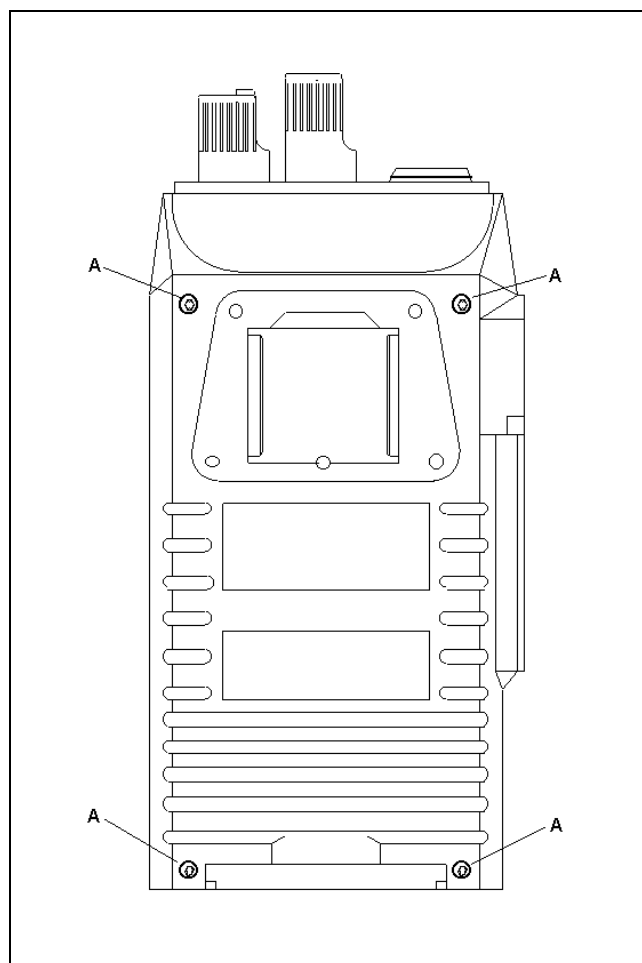

Figure 6 - Front And Rear Cover Separation
In the event internal service is required, disassemble the radio in accordance with the following outlined steps. See Figures 6 - 10.
Lay the radio face down and loosen the four (4) Torx screws (A) on the back of the radio; complete screw removal is not necessary. See Figure 6. Separate the covers by carefully lifting the Rear Cover Assembly straight-up to avoid bending the connector pins between the RF and Control Boards.